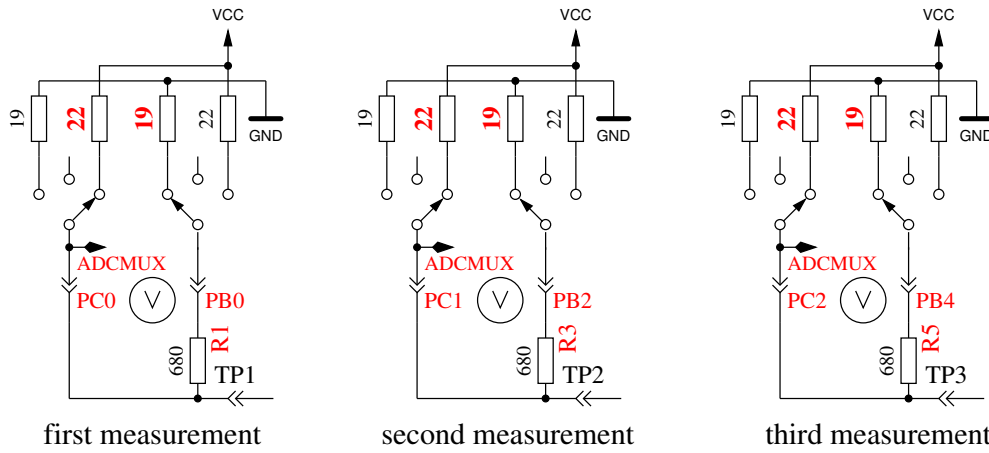

Figure 5.46: Measurement of internal resistance of Port C switched to VCC
9. **Measuring of internal resistance of port outputs switched to the VCC (+)signal.** The needed current is generated with to GND connected 680Ω resistors . It are the same measurements as those in test 8 to the other side as you can see in Figure 5.46. With the following steps the resistance is computed: To get the current, the following is computed: $(VCC - (resultoftest8) - (resultoftest9))/680$. To get both resistor values, the voltage (result of test 8 or 9) is divided by this current. The result for this test will then be notified in row 1 with the text "RI_Hi=", the resistance value (Ω) to the GND side is displayed in row 2 with the text "RI_Lo=". Both results will be written to the EEprom memory and will be used for further measurement.